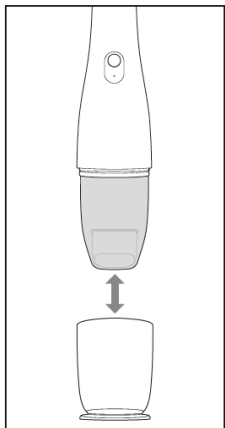

Fig. 4
1. Hold the appliance by the handle «9» and pull the cap «1» off the appliance (see Fig. 4).
5. Push the cap «1» back onto the appliance (see Fig. 4).